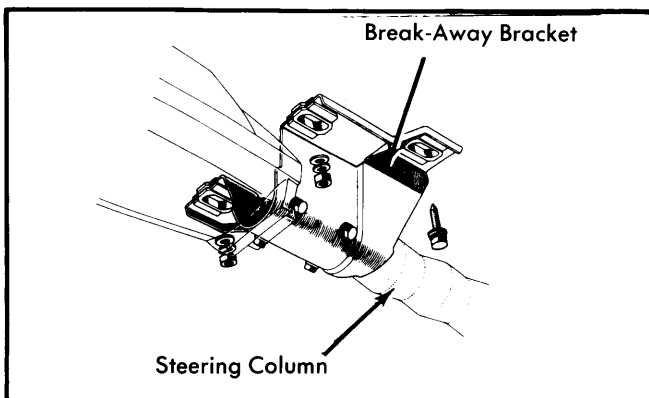

Fig. 2 Column Mounting Bracket (Corolla Shown, Corona Similar)
2) Remove steering wheel and turn signal switch. See *Steering Wheel and Column Switch in STEERING Section*. From inside passenger compartment, remove bolts mounting hole cover to firewall. Remove nuts and bolts mounting the break-away bracket (Fig. 2) then withdraw steering column assembly into passenger compartment and free from vehicle.